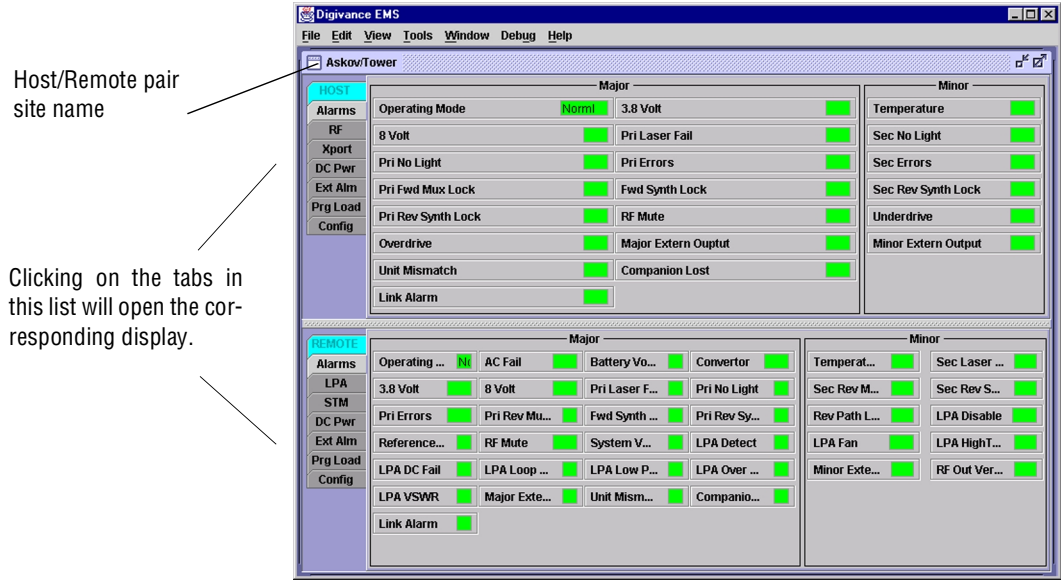

Figure 4-2. Selecting Display Tabs
9. Open the **View** drop down menu and connect to the Host and Remote pair by selecting “NotNamed/NotNamed”. The **HOST Alarms** display and the **REMOTE Alarms** display will open within the main window as shown in Figure 4-2.
11. Click on the **HOST Config** tab and on the **REMOTE Config** tab (see Figure 4-2). The **HOST Config** display and the **REMOTE Config** display will open within the main window.
15. Click on the **HOST RF** tab (see Figure 4-2). The **HOST RF** display will open within the main window.
18. Click on the **REMOTE LPA** tab (see Figure 4-2). The **REMOTE PA** display will open within the main window.
22. Click on the **HOST RF** tab (see Figure 4-2). The **HOST RF** display will open within the main window.